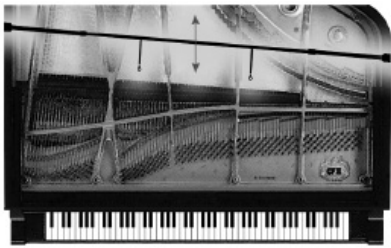

Figure 5. Facing the Mic Heads Towards the Dampers
5. The PianoMic™ can be placed inside the piano with the microphone heads either facing the dampers (Figure 5) or facing away from the dampers (Figure 6). For optimum results, the PianoMic™ System should be placed in the piano with the microphone heads placed two to three inches away from the dampers. How you place the PianoMic™ System will depend upon the piano, its size and